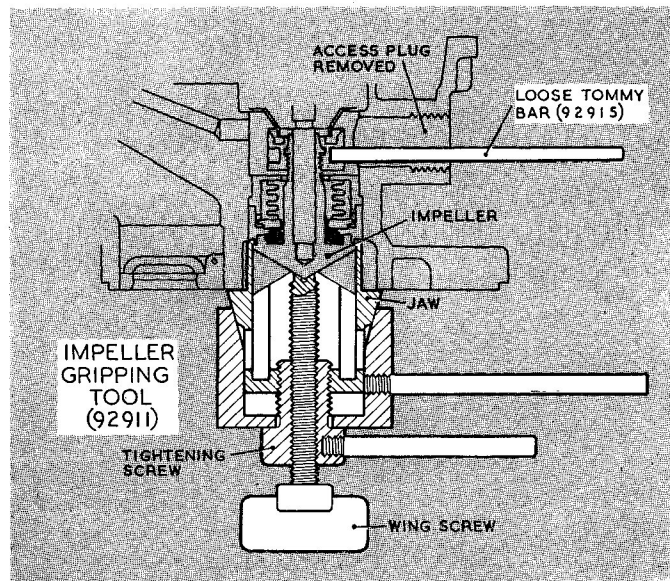

Fig. 2. Tool for gripping impeller
through the access aperture. Then insert one end of the tommy bar, Part No. 92915 (fig. 2) into the hole in the impeller nut. This will enable the nut to be held stationary whilst using the impeller gripping tool (Part No. 92911) as described in the next paragraph.
9. Hold the gripping tool (fig. 2) in one hand and with the other hand turn the brass tightening screw by means of its short tommy bar until the jaws of the tool open sufficiently to pass over the impeller. Turn the wing screw well back to ensure that it will not foul the end of the impeller and so prevent the tool being pushed right over the impeller. Push the tool over the impeller till it covers the blades and rotate the short tommy bar until the jaws close on the impeller. Then tighten the wing screw until the lip at the edge of the jaws engages on the back of the impeller (fig. 2). When this has been done, carefully tighten the jaws just sufficiently to grip the impeller; do not use force or the impeller will be damaged. Now remove the impeller from the shaft by turning the tool whilst, at the same time, holding the impeller nut stationary, afterwards pulling the impeller squarely off the shaft.
**25.** Take particular care to ensure that the gland sealing face and impeller carbon ring are absolutely clean before fitting the impeller. Grip the impeller in the gripping tool (*para. 9*) and feed the impeller on to the impeller shaft, engaging the driving pin on the shaft in one of the four slots in the impeller. Whilst this is being done, guide the impeller nut on to the tapered neck of the impeller chuck by means of a suitable soft metal implement inserted into the impeller access aperture. When the face of the impeller gripping tool touches the forward face of the impeller chamber, the impeller will be in its correct axial position on the shaft and the impeller nut must then be tightened by holding it with the tommy bar (*fig. 2*) whilst the impeller is rotated by means of the gripping tool. Care must be taken not to bend the impeller shaft during this operation.